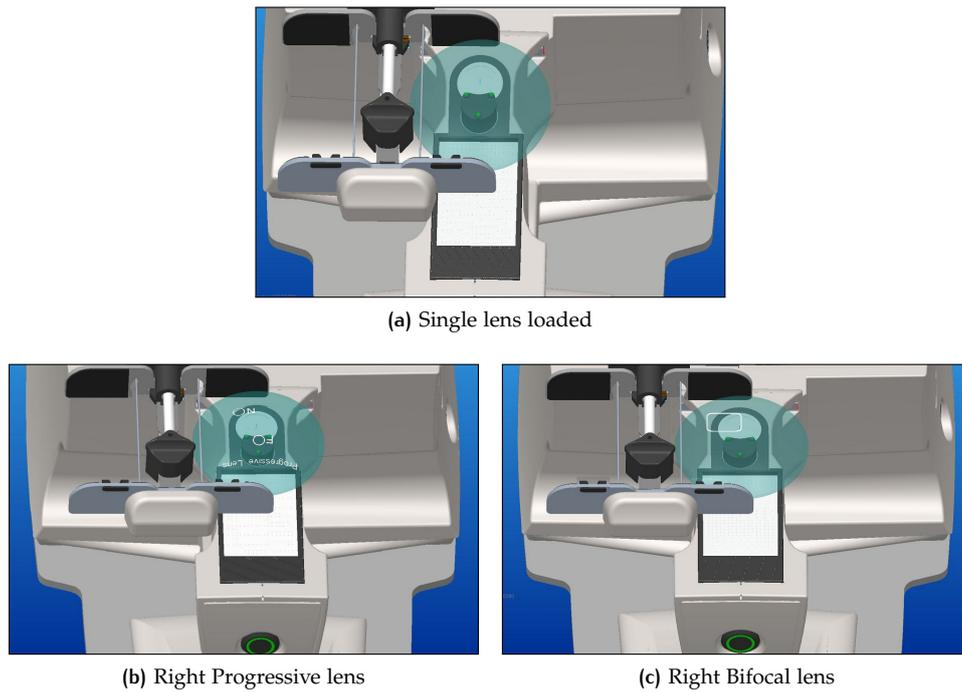

Figure 6: Single lens loaded
- Place the lens on the single lens support. Center and stabilize the lens on the support for a correct acquisition, as shown in Figure 6. Verify that no block or stuck prevent stage movement. In case of Progressive or Bifocal lens, always place the far-vision zone toward the user as the lens was part of a spectacles frame. (Figure 6)